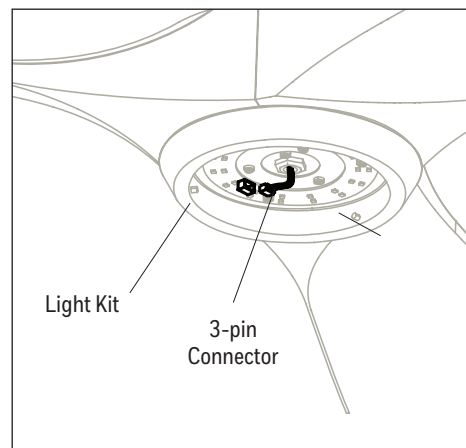

Figure 5.5
5. Then, connect the 3-pin connector from fan to the 3-pin connector from the light kit (Figure 5.5).